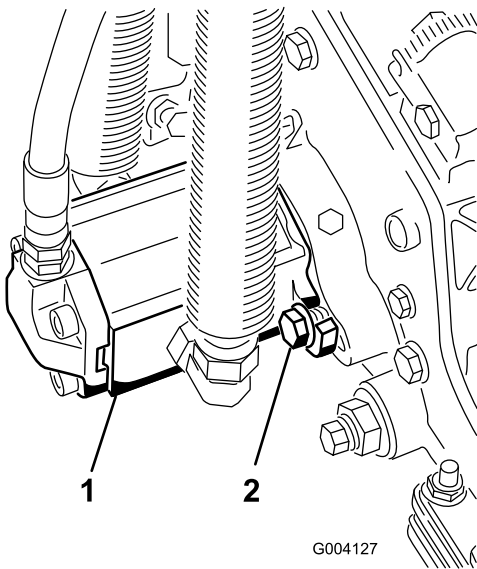

Figure 19
- 10. Install the motor by rotating it clockwise so that the motor flanges clear the cap screws (Figure 19). Rotate the motor counterclockwise until the flanges encircle the cap screws then tighten the cap screws